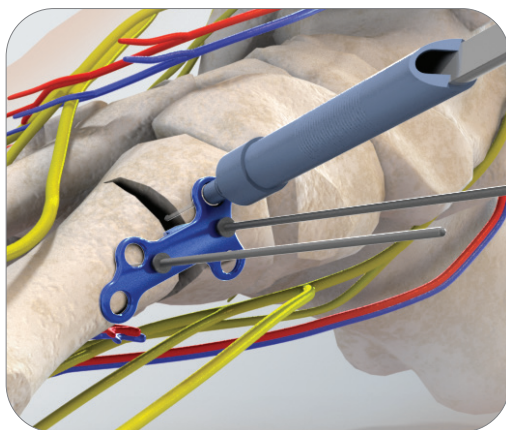

Figure 6-2
**6-2** Each hole is drilled bicortically and then measured using the Depth Gauge (2204262) from the drill, wire, and guide caddy (**Figure 6-2**).